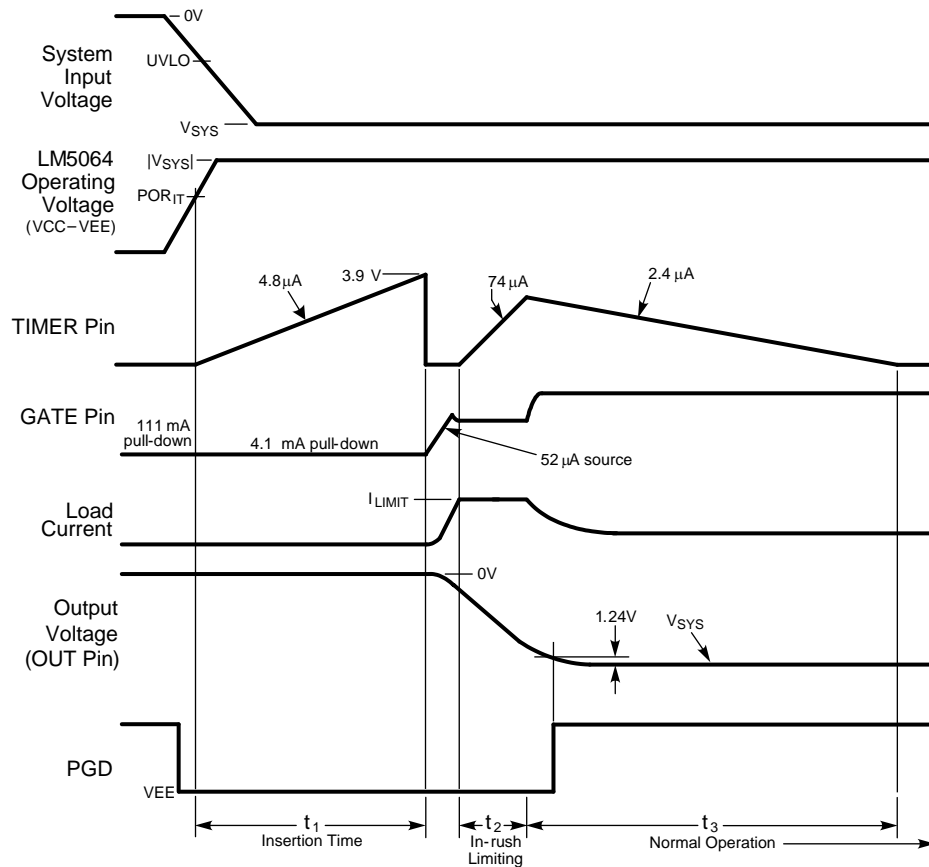

Figure 2. Power Up Sequence
Referring to Figure 2, as the system voltage (V_{SYS}) initially increases, the external N-channel MOSFET (Q_1) is held off by an internal 111 mA pull-down current at the GATE pin. The strong pull-down current at the GATE pin prevents an inadvertent turn on as the MOSFET’s gate-to-drain (Miller) capacitance is charged. Additionally, the TIMER pin is initially held at VEE. When the operating voltage of the LM5064 (VCC - VEE) reaches the POR_{IT} threshold, the insertion time begins. During the insertion time, the capacitor at the TIMER pin (C_T) is charged by a 4.8 μA current source, and Q_1 is held off by a 4.1 mA pull-down current at the GATE pin regardless of the input voltage. The insertion time delay allows ringing and transients on V_{SYS} to settle before Q_1 is enabled. The insertion time ends when the TIMER pin voltage reaches 3.9V. C_T is then quickly discharged by an internal 1.5 mA pull-down current. The GATE pin then switches on Q_1 when the operating voltage exceeds the UVLO threshold. If the operating voltage is above the UVLO threshold at the end of the insertion time, (t_1 in Figure 2) the GATE pin sources 52 μA to charge the gate capacitance of Q_1 . The maximum voltage on GATE is limited by an internal 12.6V zener diode to VEE.
As the voltage at the OUT pin transitions to V_{SYS} , the LM5064 monitors the drain current and power dissipation of MOSFET Q_1 . In-rush current limiting and/or power limiting circuits actively control the current delivered to the load. During the in-rush limiting interval (t_2 in Figure 2), an internal 74 μA fault timer current source charges C_T . If Q_1 ’s power dissipation and the input current reduce below their respective limiting thresholds before the TIMER pin reaches 3.9V, the 74 μA current source is switched off, and C_T is discharged by the internal 2.4 μA current sink (t_3 in Figure 2). The in-rush limiting will no longer engage unless a current-limit condition occurs.
A current source provides the charge at the GATE pin to enhance the N-Channel MOSFET's gate (Q_1). During normal operating conditions (t_3 in Figure 2) the gate of Q_1 is held charged by an internal $52\ \mu\text{A}$ current source. The GATE pin peak voltage is roughly 12.6V , which will force a V_{GS} across Q_1 of 12.6V under normal operation. When the system voltage is initially applied, the GATE pin is held low by a $111\ \text{mA}$ pull-down current. This helps prevent an inadvertent turn on of Q_1 through its drain-gate capacitance as the applied system voltage increases.
During the insertion time (t_1 in Figure 2), the GATE pin is held low by a $4.1\ \text{mA}$ pull-down current. This maintains Q_1 in the off-state until the end of t_1 , regardless of the voltage on V_{SYS} or UVLO/EN. Following the insertion time, during t_2 in Figure 2, the gate voltage of Q_1 is modulated to keep the current or power dissipation level from exceeding the programmed levels. While in the current or power limiting mode, the TIMER pin capacitor is charging. If the current and power limiting cease before the TIMER pin reaches 3.9V , the TIMER pin capacitor then discharges, and the circuit begins normal operation. If the in-rush limiting condition persists such that the TIMER pin reached 3.9V during t_2 , the GATE pin is then pulled low by the $4.1\ \text{mA}$ pull-down current. The GATE pin is then held low until either a power up sequence is initiated (RETRY pin to VDD), an automatic retry is attempted (RETRY pin to VEE or floating), or a PMBus ON/OFF command is initiated. See the Fault Timer & Restart section. If the operating voltage falls below the UVLO threshold, or rises above the OVLO threshold, the GATE pin is pulled low by the $4.1\ \text{mA}$ pull-down current to switch off Q_1 .
When the current limit or power limit threshold is reached during turn-on, or as a result of a fault condition, the gate-to-source voltage of Q_1 is modulated to regulate the load current and power dissipation in Q_1 . When either limiting function is active, a 74 μ A fault timer current source charges the external capacitor (C_T) at the TIMER pin as shown in Figure 2 (Fault Timeout Period). If the fault condition subsides during the Fault Timeout Period before the TIMER pin reaches 3.9V, the LM5064 returns to the normal operating mode and C_T is discharged by the 1.5 mA current sink. If the TIMER pin reaches 3.9V during the Fault Timeout Period, Q_1 is switched off by a 4.1 mA pull-down current at the GATE pin. The subsequent restart procedure then depends on the selected retry configuration.
A) Insertion Delay -Upon applying the system voltage (V_{SYS}) to the circuit, the external MOSFET (Q₁) is held off during the insertion time (t₁ in Figure 2) to allow ringing and transients at V_{SYS} to settle. Since each backplane's response to a circuit card plug-in is unique, the worst case settling time must be determined for each application. The insertion time starts when V_{SYS} reaches the POR threshold, at which time the internal 4.8 μA current source charges C_T from 0V to 3.9V. The required capacitor value is calculated from: